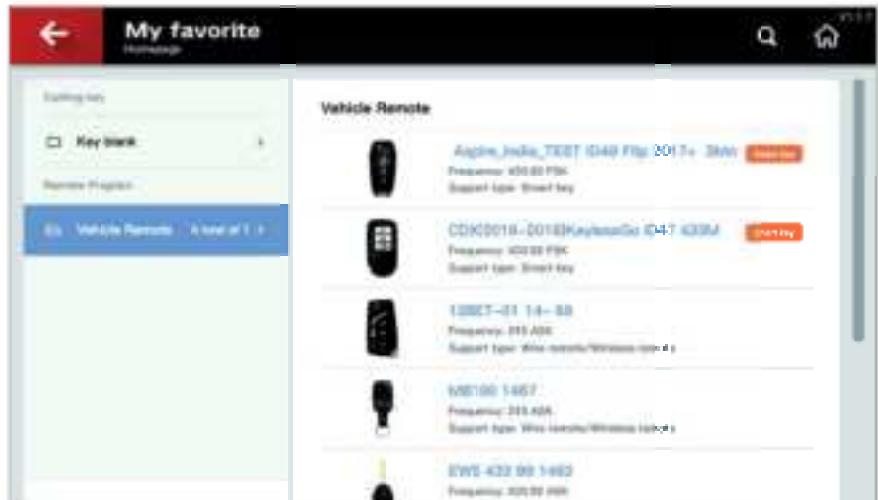

Fig.4.16
**My favorite:** Users can bookmark vehicle remotes and key blanks to quickly access their favorites with one click next time. See Fig. 4.16